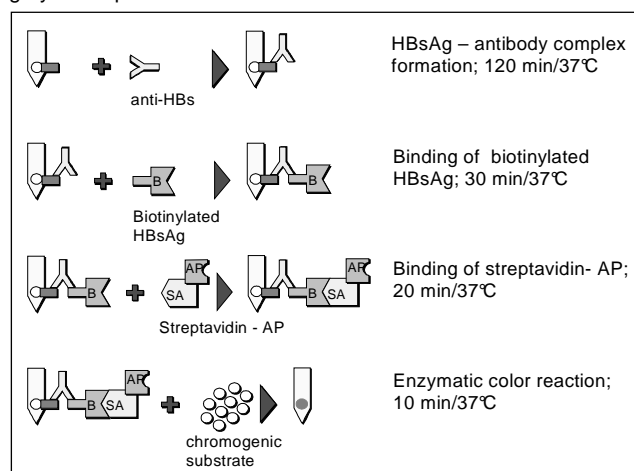

Figure 1. Principle of the Test
To start the test, serum or plasma specimens are added to the diluent in the wells of row A of the Developing Plate. The card is then inserted in the wells of row A. Anti-HBs antibodies, if present in the specimens, will bind to the HBsAg on the lower spots on the teeth of the Card (Figure 1). Unbound components are washed away in row B. In row C, anti-HBs antibodies captured on the lower spots of the teeth, will react with biotinylated HBsAg. In row D the biotinylated antigen/antibody complex on the lower spots of the teeth, and biotinylated bovine serum albumin on the upper spots (Internal Control), will react with streptavidin conjugated to alkaline phosphatase (AP). In row E unbound components are removed by washing. In row F, the bound alkaline phosphatase will react with chromogenic substrate. The results are visible as gray-blue spots on the surface of the teeth of the Card.